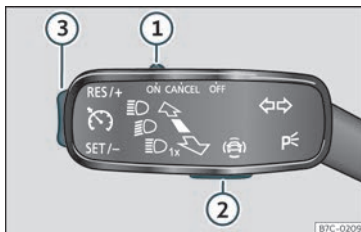

Fig. 208 On the turn signal lever: buttons to operate the speed limiter.
To change between the driving assistance systems, press button >>> Fig. 208 (2), then select with the right thumbwheel on the multifunction steering wheel in the instrument panel menu and press the thumbwheel to confirm your selection.
- Move control >>> **Fig. 208 ①** to position **ON** and press button **②**.
- While driving, press button >>> **Fig. 208 ③** in the area **SET/-**.
You can set the speed using button >>> **Fig. 208 ③**:
- Move control >>> **Fig. 208 ①** to position **OFF**.
If you want to temporarily deactivate the speed limiter, e.g. for overtaking, move the control >>> **Fig. 208 ①** to position **CANCEL** or press button **②**.
After overtaking, the speed limiter can be activated with the previously programmed speed by pressing button >>> **Fig. 208 ③** in the area **RES/+**.